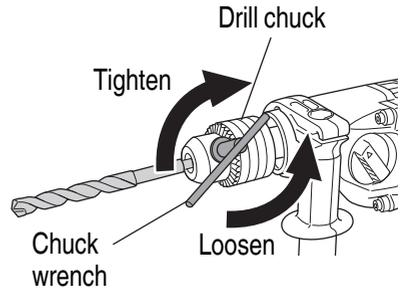

Fig. 1
7. Mounting and dismounting of the bit (**Fig. 1**)